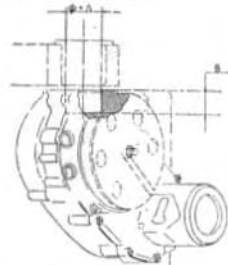

Fig. 21 - Machining dia. « A »
- Secure the spindle T. 0020868 on a drilling machine and ream dia. « A » (see Fig. 21). Dimensions « A » and « B » should correspond to those of the original crankcase, which are indicated below: